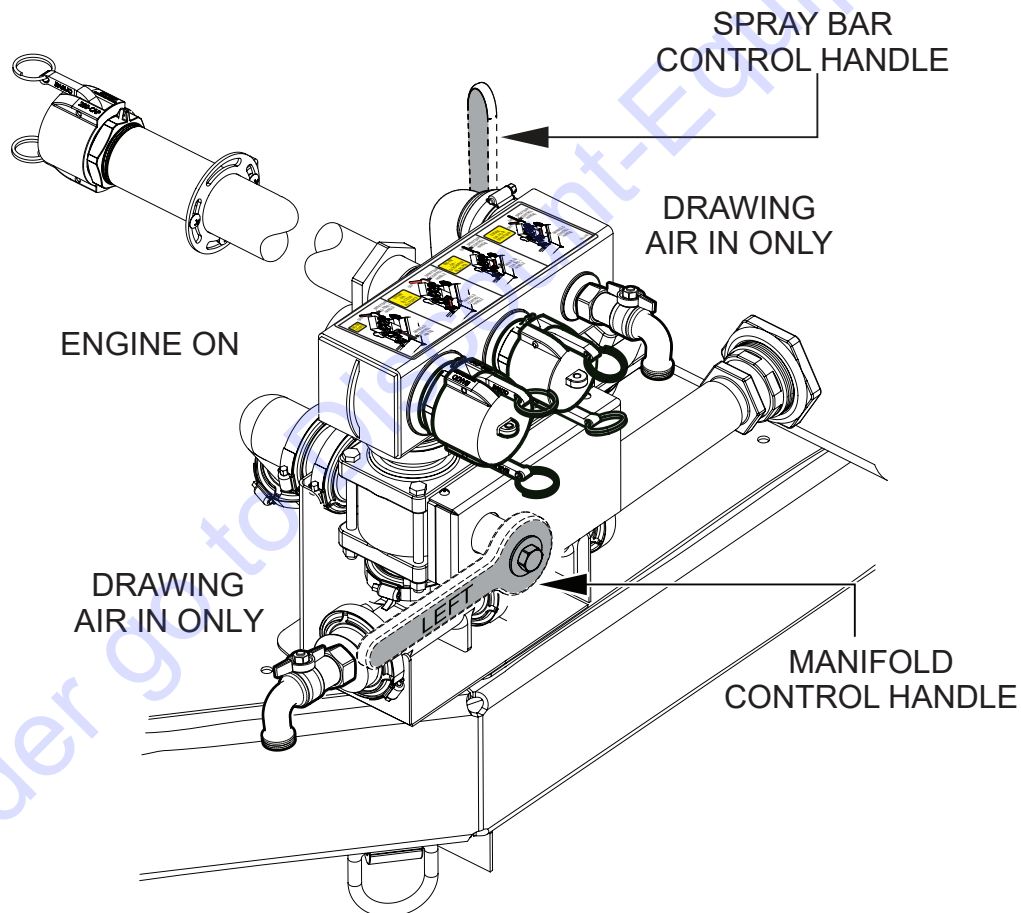

Figure 17. Do Not Use Mode (Engine On)
There is an operating mode (Figure 17) that could be harmful to your water pump. Never operate the water trailer with the spray bar control handle in the vertical position (rear spray on), and the manifold control handle in the horizontal position (suction/left) with the engine running.
**NEVER** operate the water trailer with the spray bar and manifold control handles as shown in Figure 17.